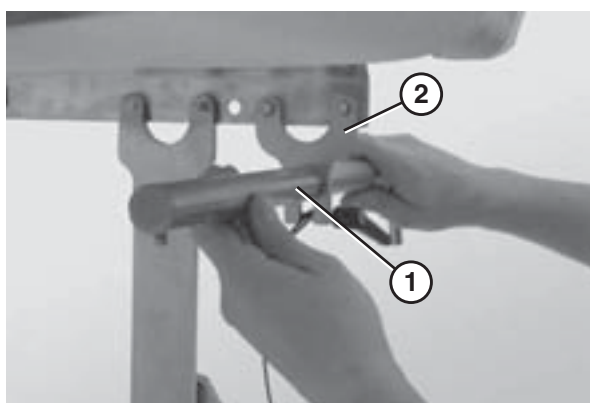

Figure 8
2. Slide the notched end of the scraper shaft (Figure 8, item 1) through the adjustment plate (Figure 8, item 2).